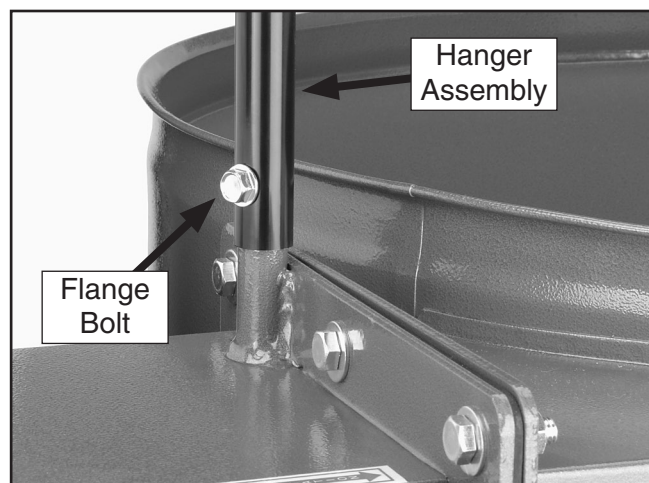

Figure 12. Hanger assembly mounted onto collector.
19. Mount the hanger assembly on the protruding rod on the collector as shown in **Figure 12**.
21. Secure the hanger assembly with one $\frac{1}{4}$ "-20 x $\frac{1}{2}$ " flange bolt (see **Figure 12**).